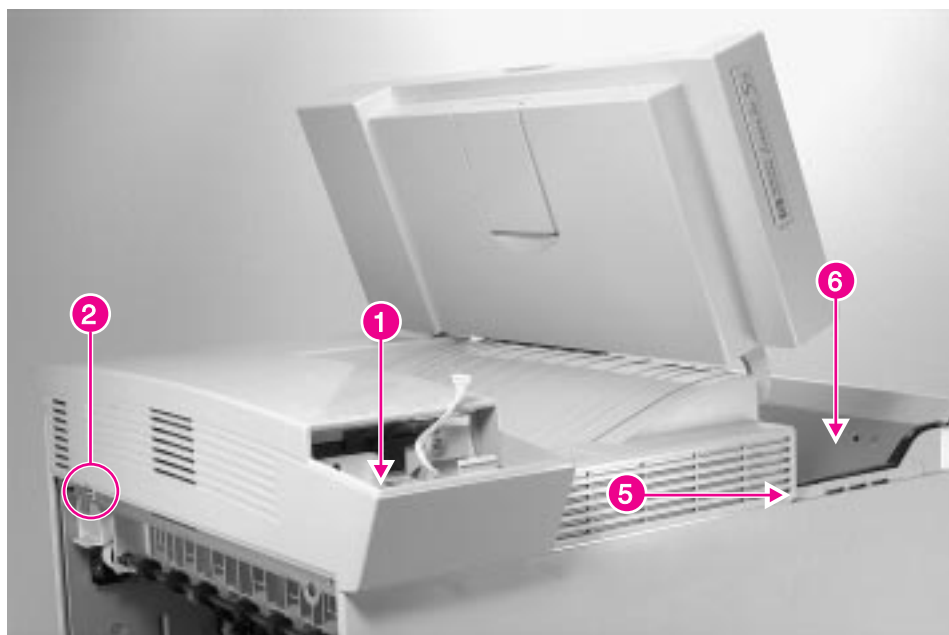

Figure 6-9 Top Cover (1 of 2)
- 1 Remove the Control Panel (see figure 6-3 on page 159), and remove 1 screw (figure 6-9, callout 1).
- 2 Open the Diverter Assembly access door, and remove 1 screw (figure 6-9, callout 2).
- 4 Lift (and hold) the top cover door up, and carefully pull out on the cover to release the retaining tab (figure 6-9, callout 5).
- 5 Hold the Standard Output Bin (figure 6-9, callout 6) down while carefully and slowly lifting the top cover straight up until it clears the Standard Output Bin Full sensor flag and the Delivery Unit.
- 1 Hold the top cover door up and the Standard Output Bin (figure 6-9, callout 6) down while lowering the cover into position.
- Top Cover (see figure 6-9 on page 166)
- 2 Remove the top cover (see figure 6-9 on page 166).